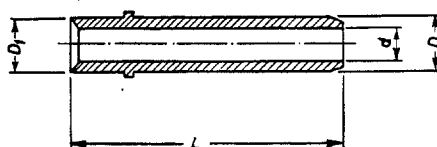

Fig. M 26/00
- Later design with bell (Fig. M 26/01).
If single valve guides are to be replaced, install guides of the same design. When exchanging all the valve guides, install guides of the later design depicted in Fig. M 26/01 together with bell-shaped packing (see Fig. M 26 b/02).